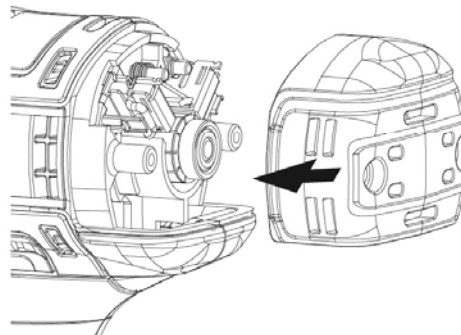

Fig.9
(9). Put rear cover back to housing in proper order. ( See Fig.9)